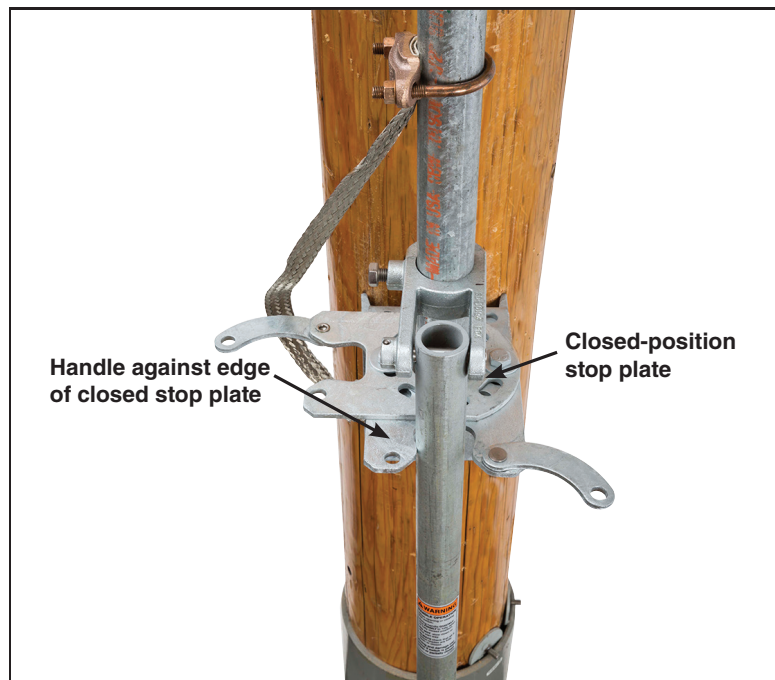

Figure 21. Adjust the Closed position stop plate.
- (b) The stop plate holes are slotted to allow room for adjustment. Position the operating handle in the stop plate, and turn the operating handle as far as it will go in the **Closed** position. (Counterclockwise is standard on switches using the rotating operating mechanism.) The handle should be tight against the edge of the stop plate. See Figure 21 on page 18. Mark the position of the closed stop plate. See Figure 22 (Left).